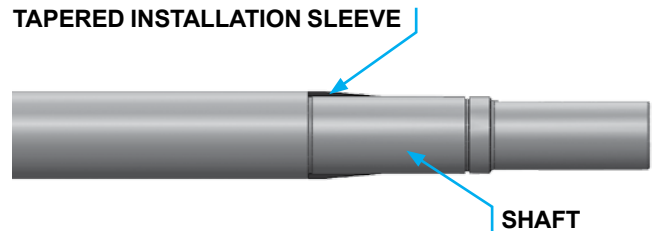

FIGURE 8
4. Place a tapered installation sleeve on the shaft, see **Figure 8**. Coat the rotor shaft, tapered installation sleeve and inner diameter of the mechanical seal rotary member with a generous amount of Molykote 55 or compatible O-ring lubricant.
14. Install the bearing spacer over the shaft and against the single row ball bearing. See **Figure 8**.